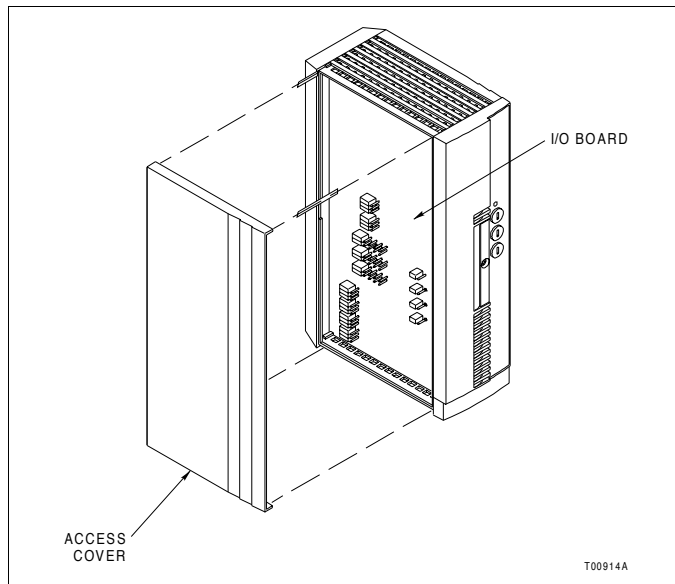

Figure PR14-1. Configuration Jumper Access
- ☐ 4. Remove the access cover from the left side of the I/O module (Fig. PR14-1).